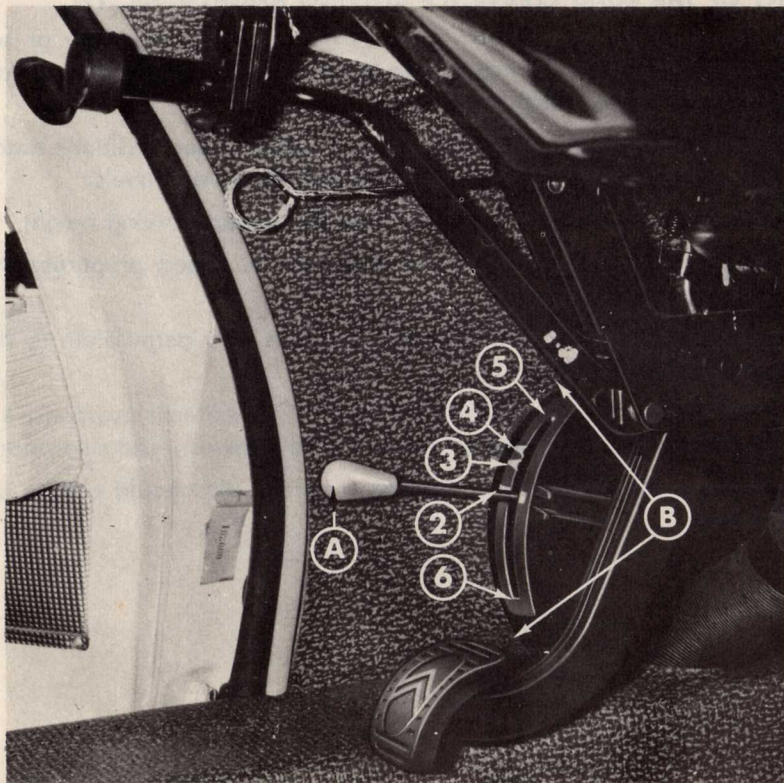

fig. 17
ADJUSTMENT OF THE ROAD CLEARANCE (DRIVING HEIGHTS) (fig. 17)
Raise the lever **A** (fig. 17) to the highest position (5), the car will rise slowly by itself.
The support has a series of holes in its upper half. Engage the straight arm of the pin (fig. 20) into the second hold nearest to the notch in the lower half. Lower the lever A all the way to the position 6 (fig. 17) and wait until the wheels rise (both the front and the rear wheels on the side being worked will rise simultaneously)
Raise the manual height control lever A to the high position, **5**, fig. 17.
Lower the height control lever to normal drive position, **2**, fig. 17.